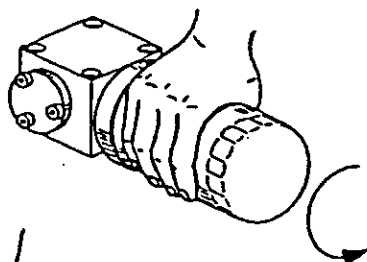

Figure 15
- Unscrew clogged filter by turning the filter counterclockwise and discard. (Figure 15)